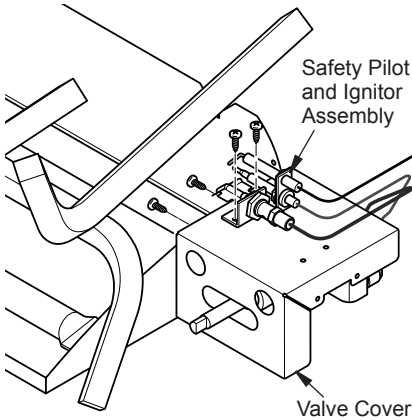

Figure 4A
6. Install valve cover to burner pan using self tapping screws as shown in Figure 4A.
7. Install safety pilot and piezo ignitor onto baffle panel using self tapping screws as shown in Figure 4A and 4B.